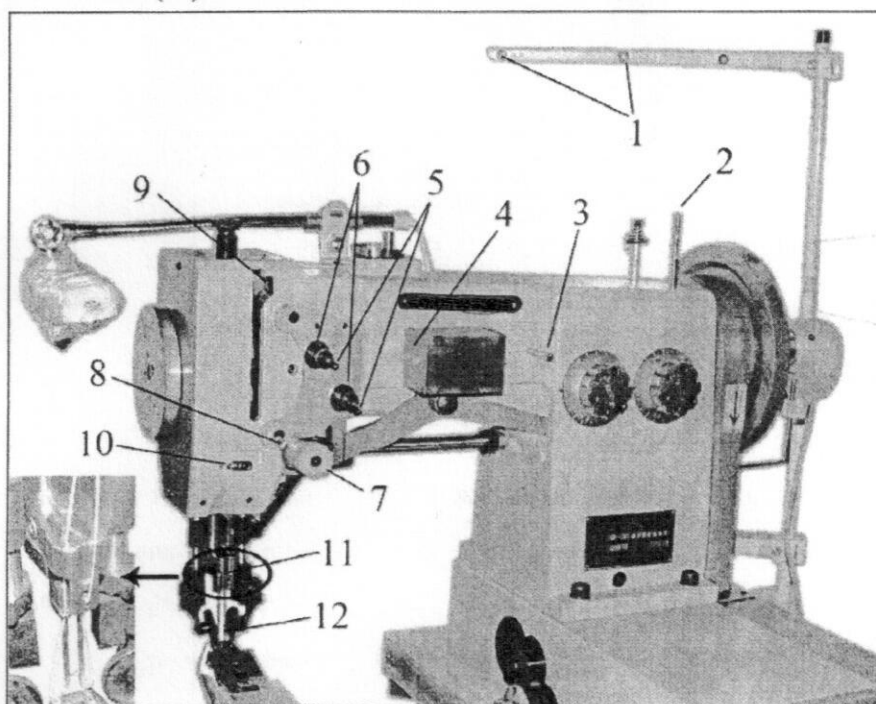

Fig.2
- Threading the needle thread by the path indicated in **Fig.2**
(1)Thread wheel holder (2)Threading rod (3)Threading rod (4)Oil box (5)Threading rod (6)Tightener (7)Threading wheel (8)Take-up leaf (9)Take-up lever (10)Threading ring (11)Needle holder (12)Needle